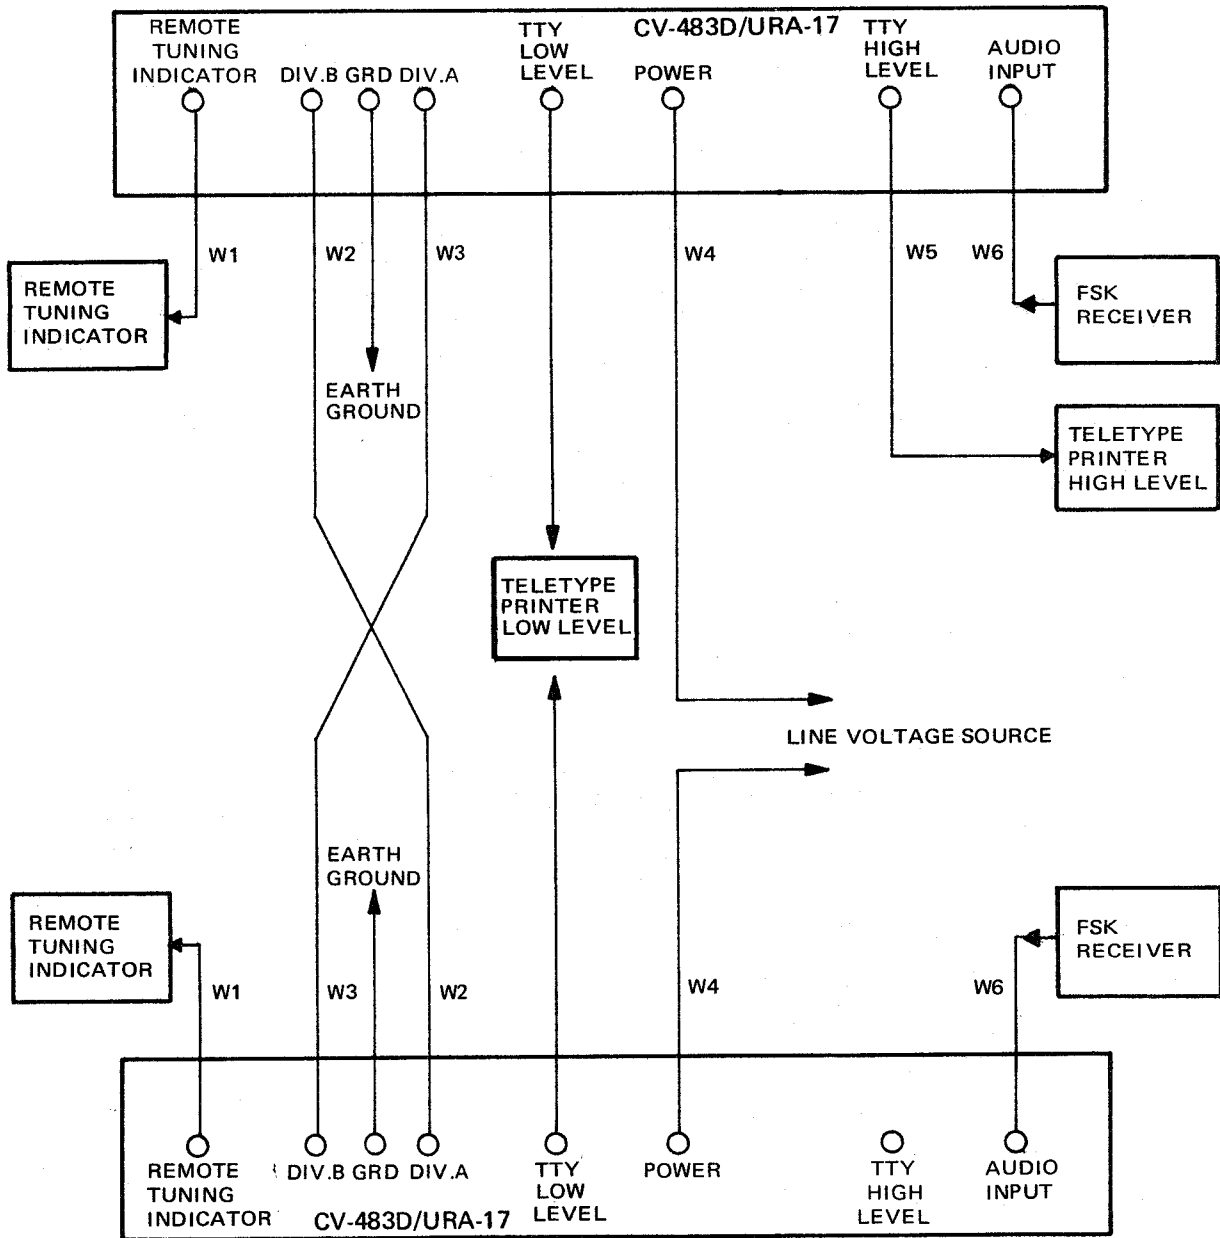

Figure 2-5. Comparator-Converter Group AN/URA-17D,
(2) INTERCONNECTING CABLES FOR DIVERSITY OPERATION. - Table 2-2 lists the required cable and connector information for diversity operation of the AN/URA-17D. Figure 2-5 illustrates the interconnection to associated equipment.
\* Use in conjunction with figure 2-5.